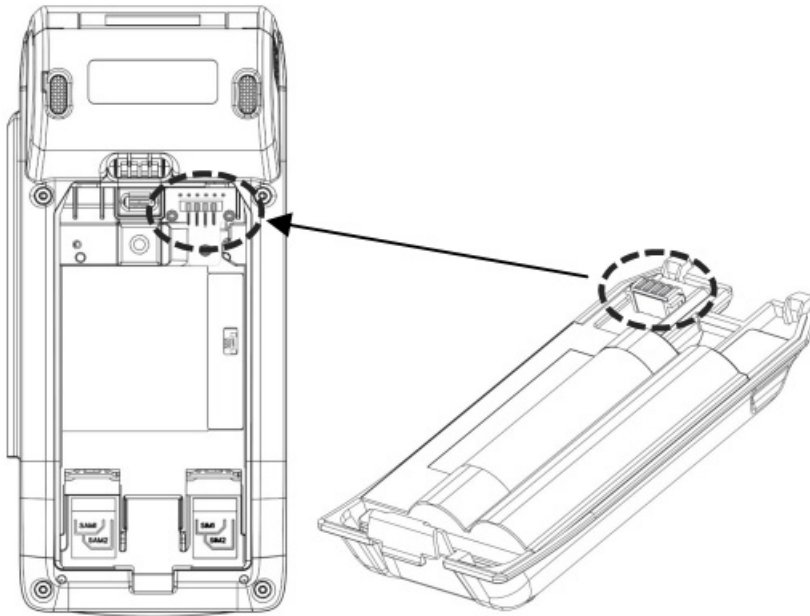

Figure 10
STEP 1: Insert the battery connector into AT150 as Figure 10.